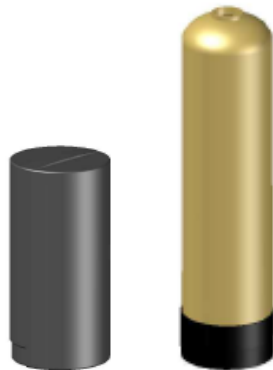

Figure 4:
- _____ 2) Brine Tank (Figure 4)